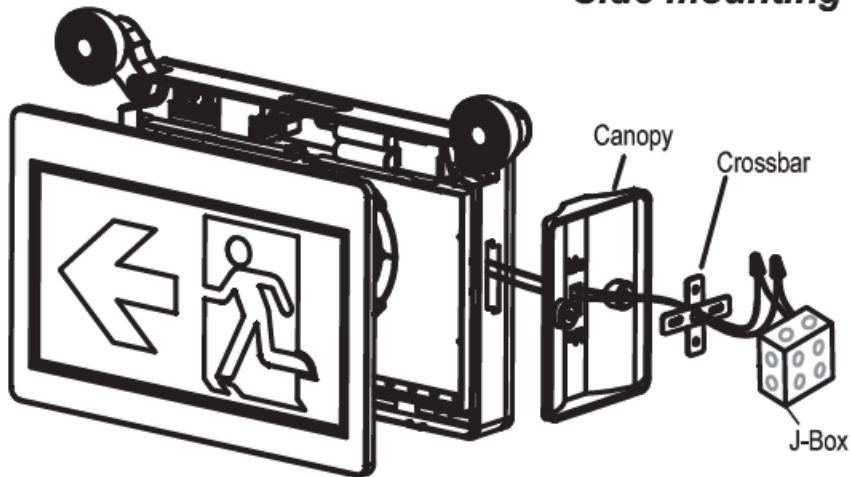

Fig 4
3. For ceiling and side mounting purposes, remove the mounting hole cover on the top or side of the unit, and assemble the canopy (see Fig 4,5,6).